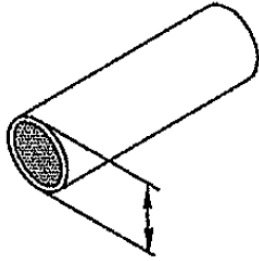

Figure 1
1. Measure the outer diameter of the cable jacket. Cable must be 4/0, rated 105°C. See Figure 1.